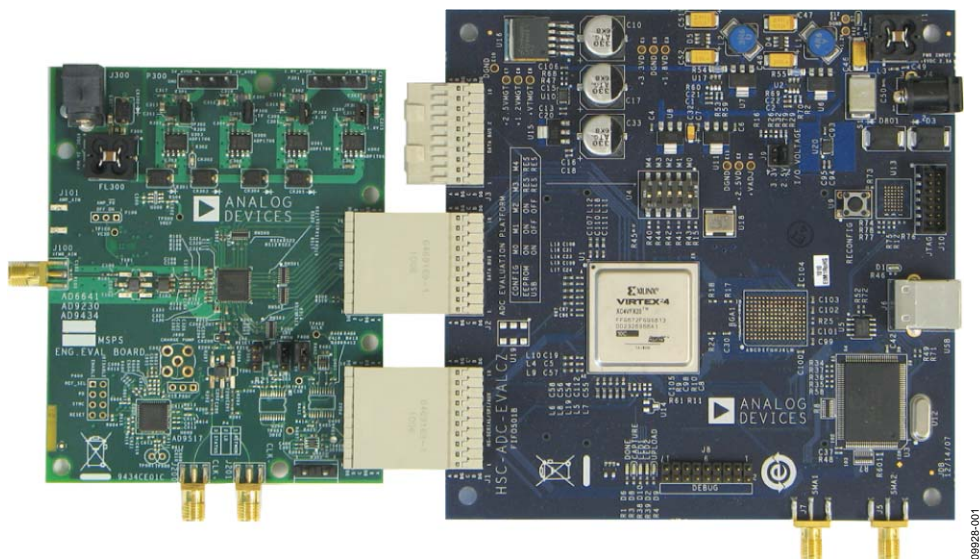

Figure 1. **AD6641** Family Evaluation Board and **HSC-ADC-EVALCZ** Data Capture Board
1. Connect the AD6641 evaluation board to the HSC-ADC-EVALCZ boards as shown in Figure 1.